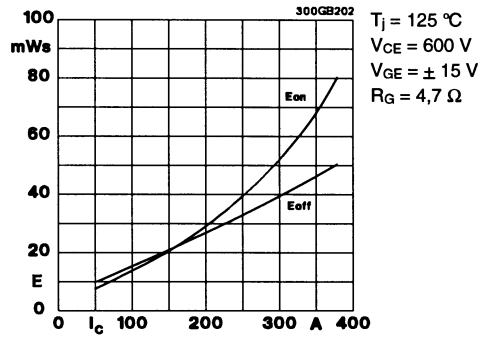

Fig. 2 Turn-on /-off energy  $= f(I_c)$
5) see fig. 2 + 3;  $R_{Goff} = 4,7\ \Omega$